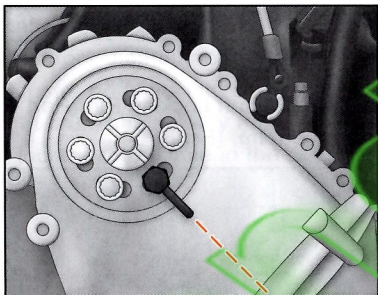

Fig.11
7. Camshaft Locking Pin (Part No.D) have a "flat" machined on both sides. Camshaft Locking Pin (Part No.D) should be inserted through both the sprockets and the camshafts, into the datum holes in the cylinder heads. Rotated until the handles point downwards at an angle towards the crankshaft and must be alignment in line with centre of camshaft sprocket. (Fig.11 & 12)